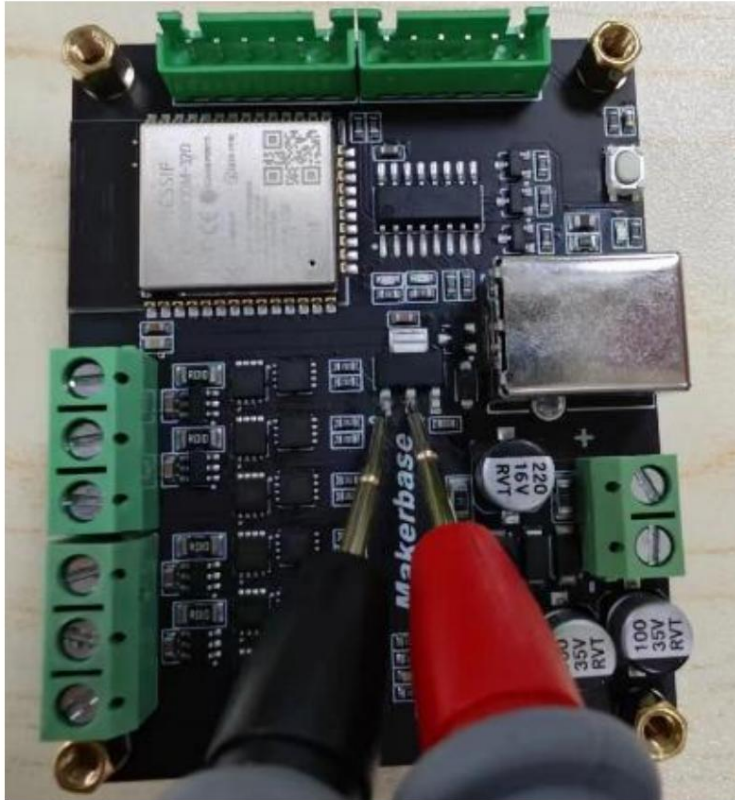

Figure 3 Test whether 3.3V and GND are short-circuited
3. Use a multimeter to check whether the 3.3V of the driver board is short-circuited to GND, as shown in Figure 3